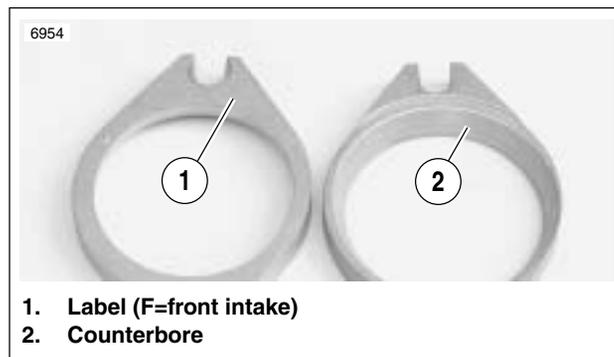

Figure 4-73. Intake Flanges
1. See Figure 4-73. Install front and rear intake flanges onto manifold with the counterbore facing out. Each intake flange is labeled and the pieces are not interchangeable.